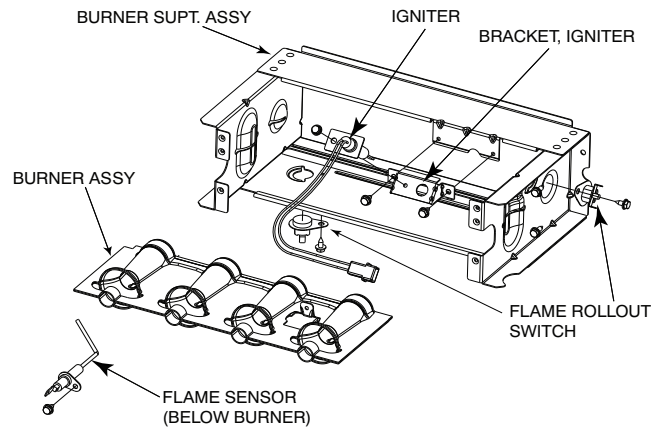
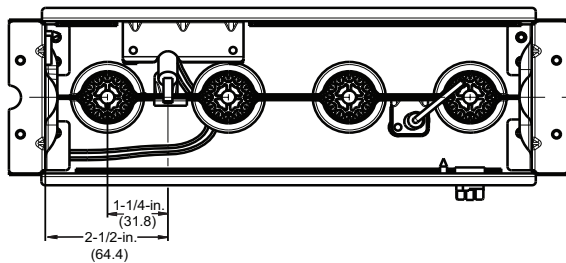
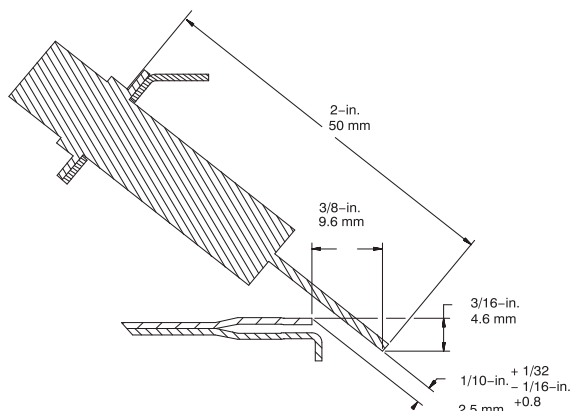

Fig. 64 – Burner Assembly
Fig. 65 – Igniter Position - Top View
Fig. 66 – Igniter Position - Side View
Refer to Fig. 64.
8. Check the igniter alignment. See Fig. 64, Fig. 65, and Fig. 66.
The igniter does **NOT** require annual inspection. Check igniter resistance before removal. See Fig. 64, Fig. 65, and Fig. 66.
- a. Using a 1/4-in. driver, remove the two screws securing the igniter mounting bracket to the burner assembly See Fig. 64.
6. To replace igniter and bracket assembly, reverse items 5a through 5d.
7. Reconnect igniter harness to the igniter, dressing the igniter wires to ensure there is no tension on the igniter itself. See Fig. 64.